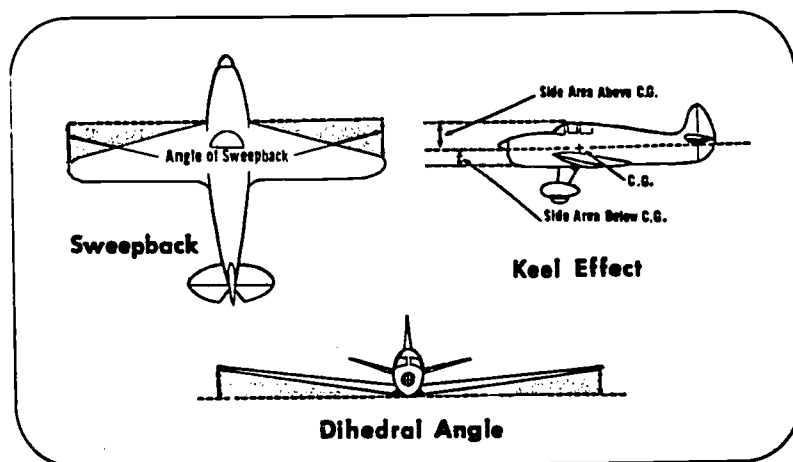

Figure 25. Dihedral, Keel Effect and Sweepback.
ally stable, any force applied to cause the wings to change position will be resisted, and the wings will return to "straight and level" flight once the force is removed. This type of stability is comparatively easy to obtain. Three factors help make an aircraft stable along its lateral axis: (1) the dihedral angle of the wings, (2) keel effect, and (3) sweepback. Study Figure 25 briefly, and then we'll look at these three design characteristics, one at a time.